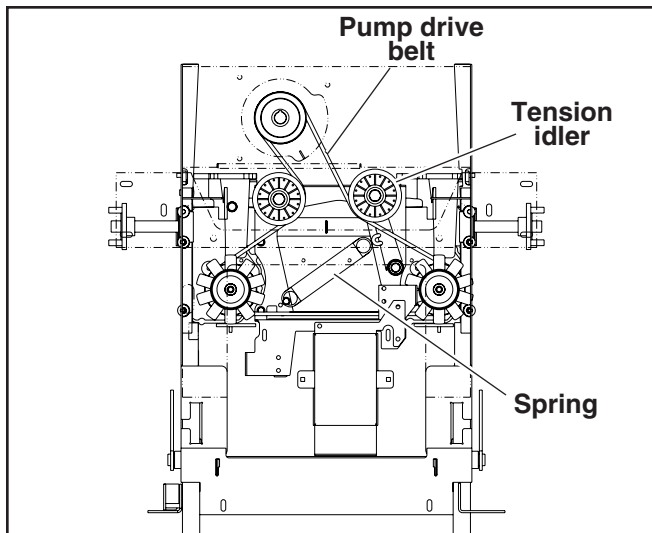

Figure 9-31
The pump drive belt tension remains constant by means of a tension idler and spring (Fig. 9-31). There is no tension adjustment of this belt. **NOTE:** Inspect the belt every 100 hours and replace as needed. Replace the belt every 200 hours or every two (2) years whichever comes first.